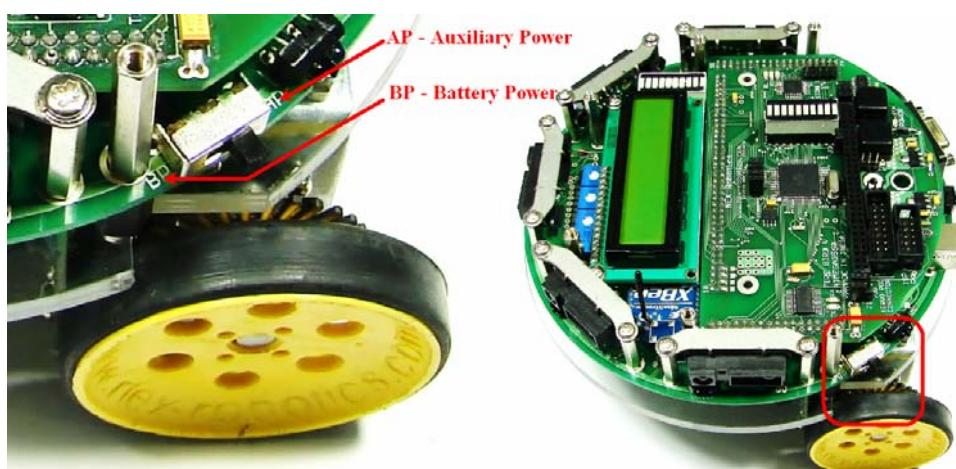

Figure 3.3: Power Switch
To turn on the robot on the battery power, make sure that battery is connected to the robot and move the power switch towards forward direction (BP) as shown in the figure 3.3
2. Move the power switch to the BP (refer to figure 3.3).
4. Now to turn on the robot move power switch towards “AP” (backwards) (figure 3.3).